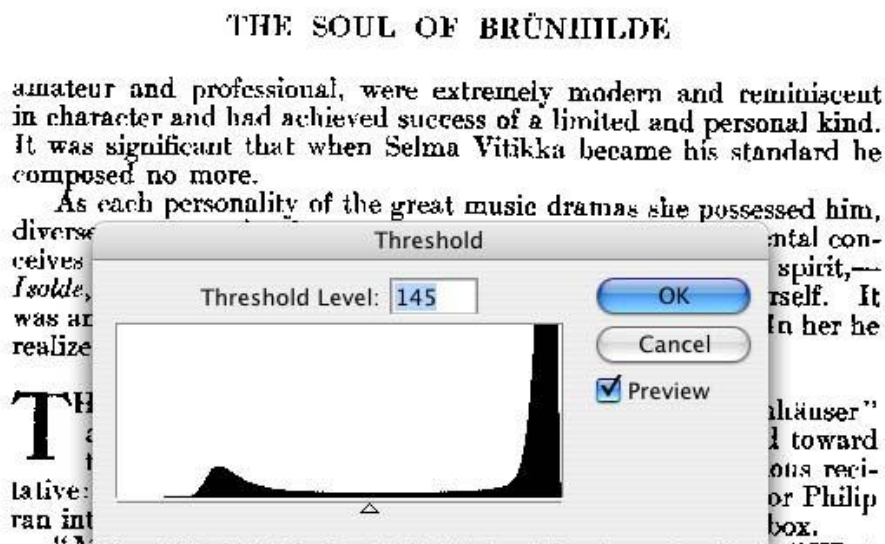

Figure 7a Photoshop Thresholding
To convert to bi-tonal in Photoshop (*Figures 7a & 7b*):
- Decide on the best place to set the threshold point. Do not drop out portions of letters or fill in letters. Setting the threshold point determines at what point gray pixels get changed to white vs. at what point they get converted to black. (*Figure 7a*)